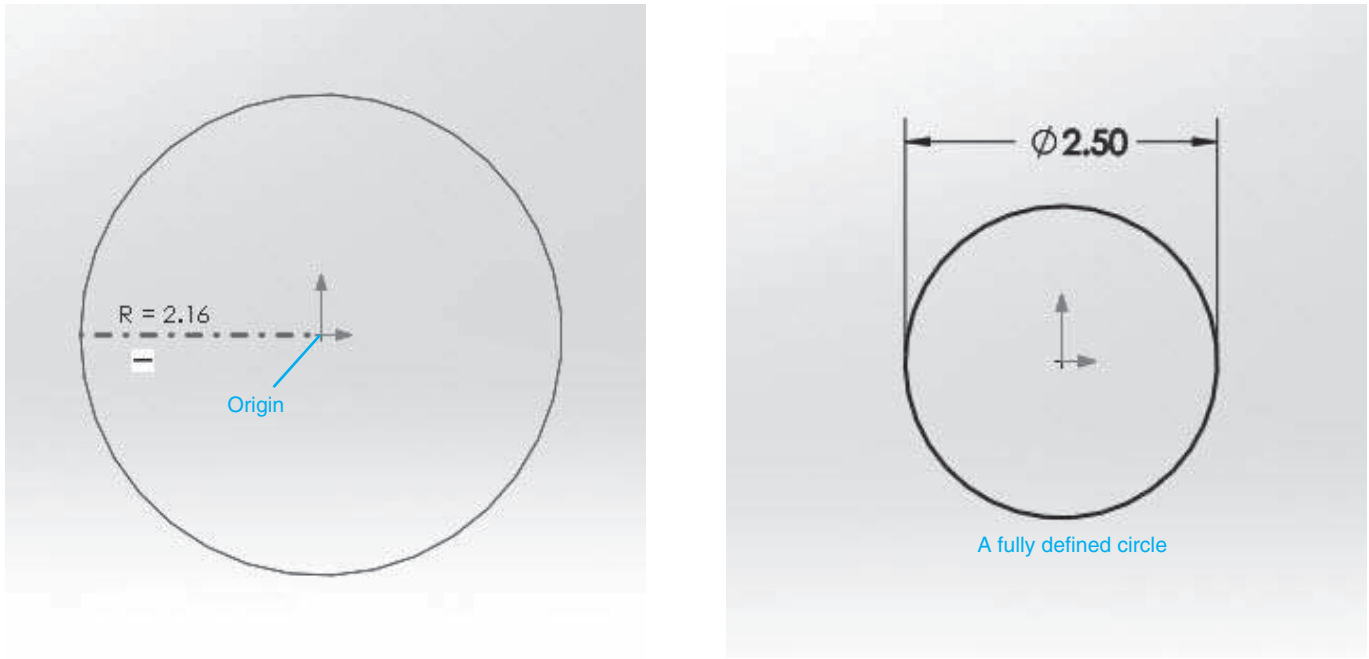

Figure 2-16
- 7 Click the **Smart Dimension** tool, click the circle, and define the circle's diameter. See Figure 2-16.